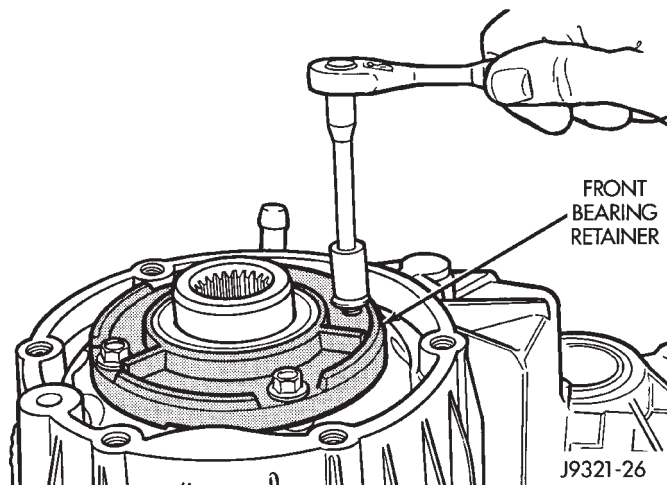

Fig. 59 Install Front Bearing Retainer
(6) Install bolts to hold retainer to transfer case (Fig. 59). Tighten to 21 N·m (16 ft. lbs.) of torque.